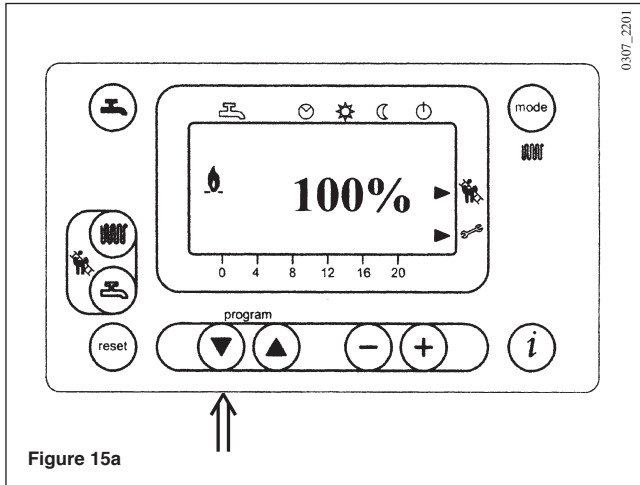

Figure 15a
- Press and hold the  and  keys on the control panel simultaneously for 7 seconds until the ► symbols appear on the display in the position shown in figures 15a and 15b . You are now in ‘**calibration mode**’.
- Press the  key to set the maximum heat output, with the display showing 100% (figure 15a).
- Switch on the boiler, activating the “setting function” from the control panel by pressing and holding the  and  keys simultaneously until the ► symbols are displayed, positioned as illustrated in figures 15a and 15b . You are now in ‘**calibration mode**’.